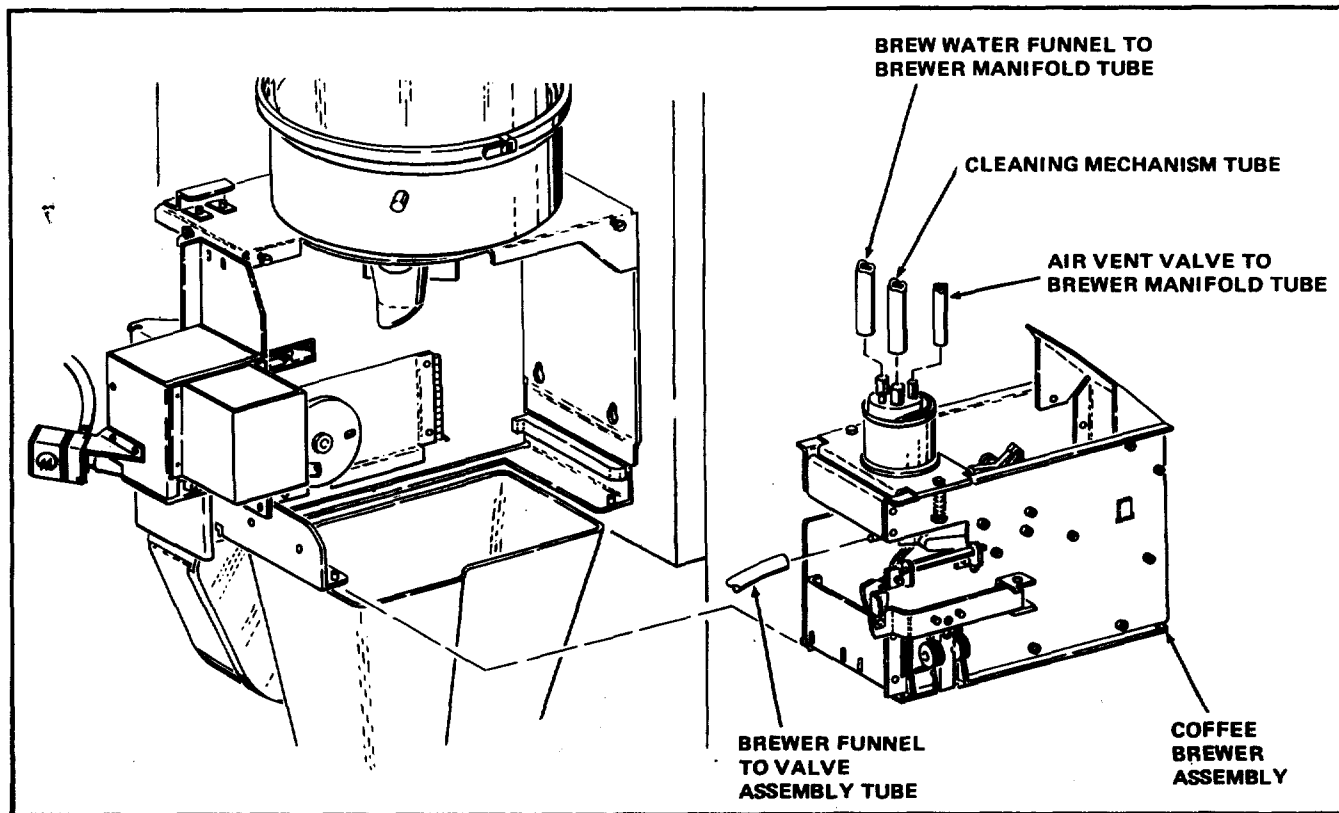

FIGURE 8
3. Disconnect the Brew Water Funnel to Brewer Manifold Tube from the Brewer Manifold. See Figure 8.
4. Disconnect the Cleaning Mechanism Tube (if equipped) from the Brewer Manifold. See Figure 8.
5. Disconnect the Brewer Funnel to Valve Assembly Tube from the Coffee Funnel Assembly. See Figure 8.
7. Remove the Coffee Brewer Assembly from the Merchandiser. See Figure 8.
3. Connect the Brewer Funnel to Valve Assembly Tube to the Coffee Funnel Assembly. See Figure 8.
4. Connect the Cleaning Mechanism Tube (if equipped) to the Brewer Manifold. See Figure 8.
5. Connect the Brew Water Funnel to Brewer Manifold Tube to the Brewer Manifold. See Figure 8.
6. Connect the Air Vent Valve to Brewer Manifold Tube to the Brewer Manifold. See Figure 8.
2. Disconnect the Air Vent Valve to Brewer Manifold Tube from the Brewer Manifold. See Figure 8.